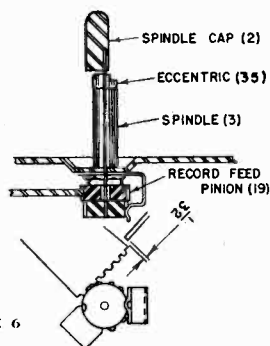

FIGURE 6
Check for bind in Spindle Assembly (See Figure 6). Disassemble Index Collar (22) and Record Feed Pinion (20), remove Spindle Cap (2), Eccentric (35) and eccentric rod. Check for freeness and remove binds.
(c) The Feed Sector Lever (19) should mesh with the Record Feed Pinion (20) as shown in Figure 6.
Check meshing of Feed Sector Lever (19) with Record Feed Pinion (20). Reset as shown in Figure 6.